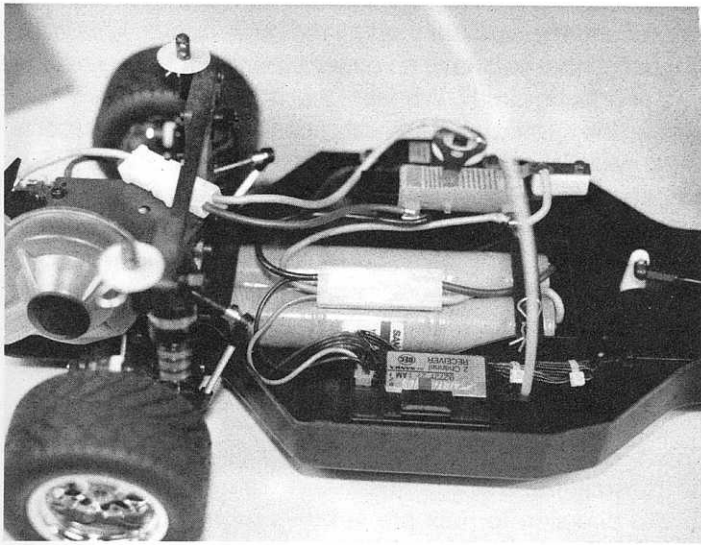

Fig. 149
□ **Fig. 149** This photo shows the battery pack installed and plugged into the #6747 battery input harness. **WARNING! Make sure the on/off switch is in the off position or the B.E.C. connector is unplugged before plugging in the battery pack.**